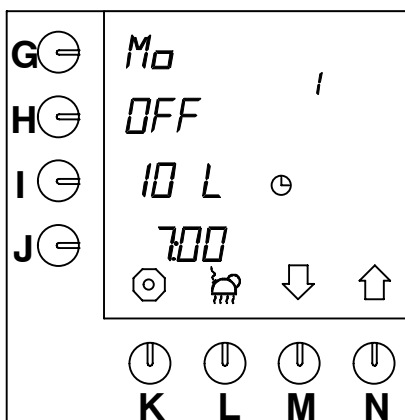

Fig. 14 Default pre-programmed setting
- Subsequently, the next pre-programmed time setting appears on the display (fig.14 ).
- After this the next time setting appears on the display (fig.14 ).